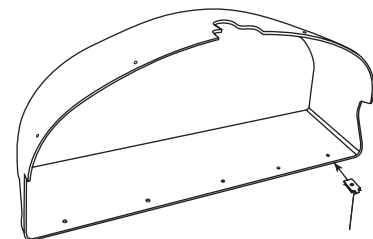

FIGURE 21b
- INSTALL (9) U-NUTS #8 IN GLOVE BOX AS SHOWN IN FIGURE 21b.